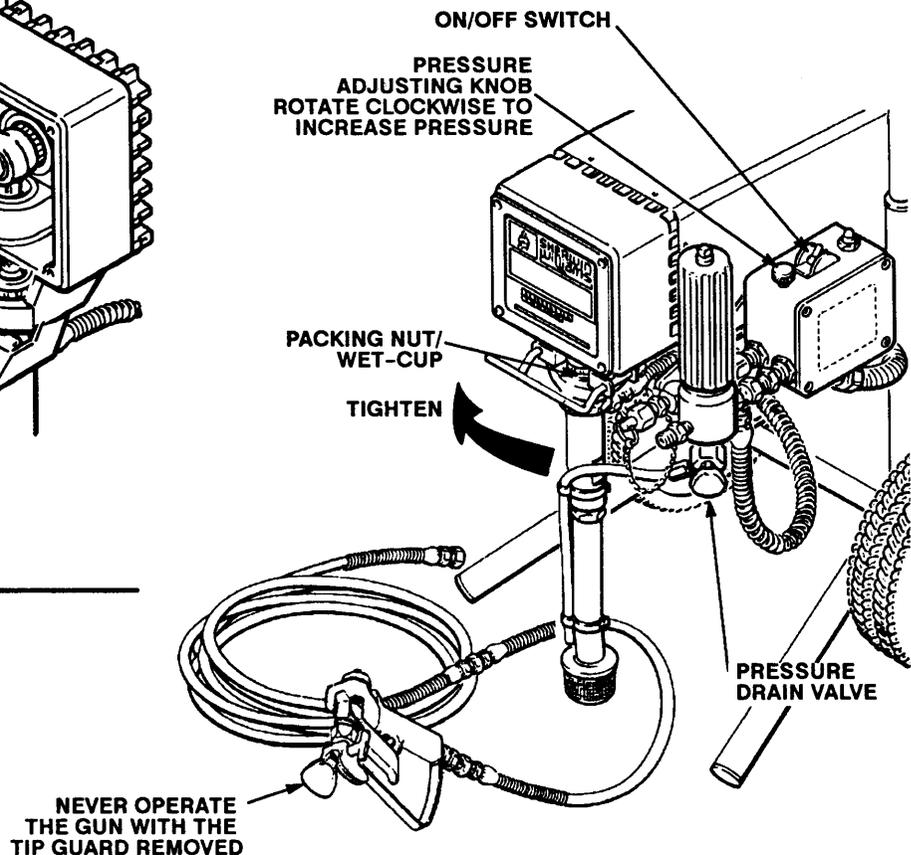

Fig 4
**NOTE:** See Fig 4 except where noted.
2. **Keep the packing nut just tight enough to stop leakage.** See Fig 4. Overtightening causes binding and excessive packing wear. Use a round punch or brass rod and light hammer to adjust the nut.